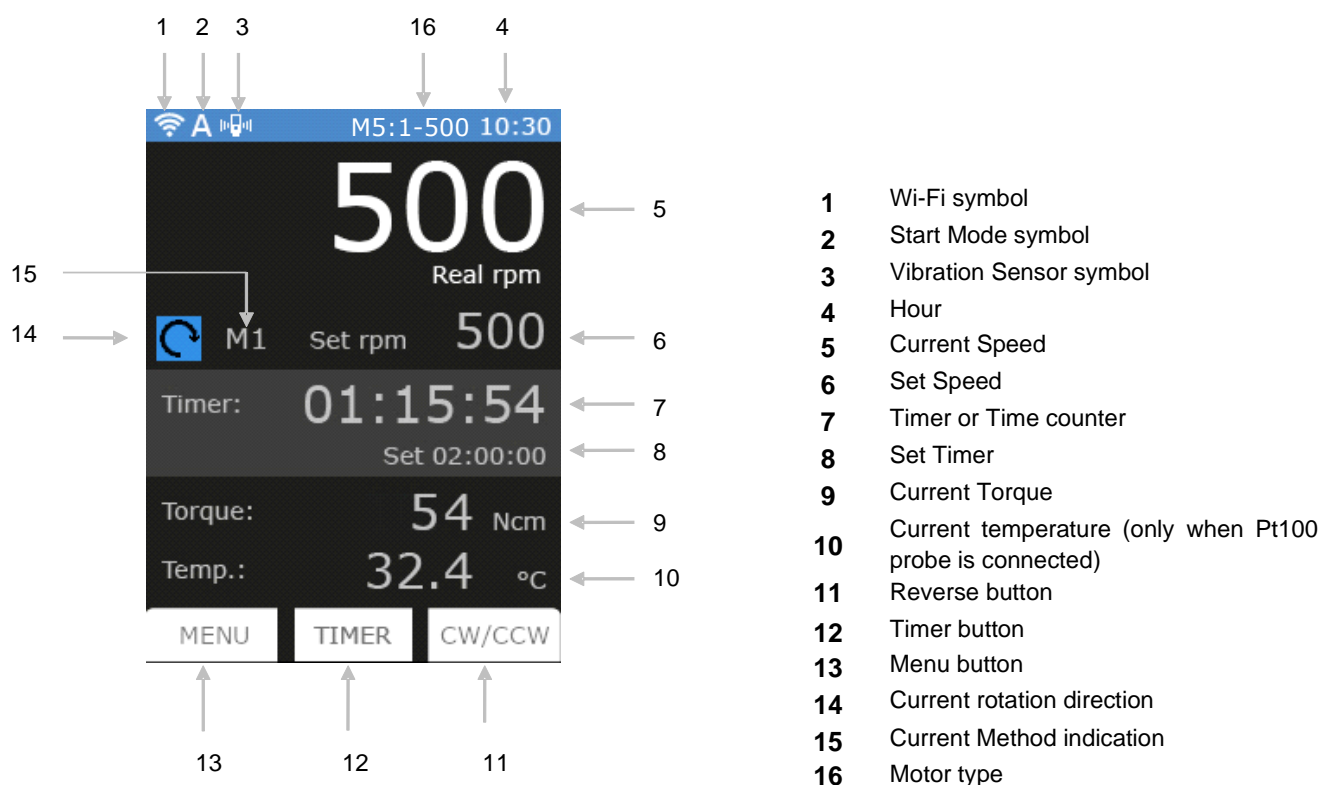

Figure 3. Display
Commissioning	<ul style="list-style-type: none"> ➤ Switch on the instrument using the main switch (E) ➤ Display (A) shows Welcome page and the main screen (Figure 3).